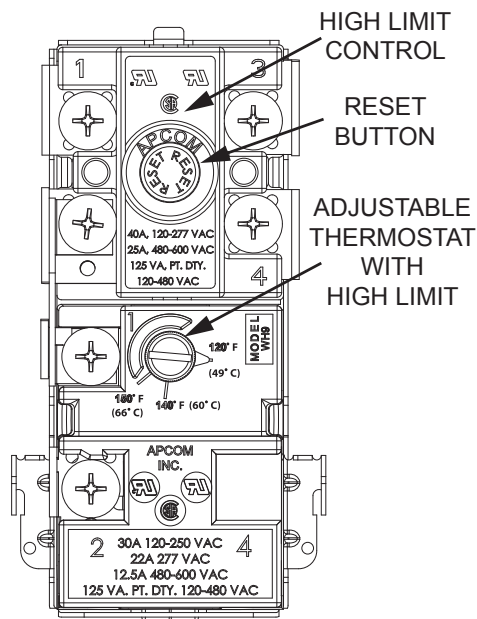

Figure 7.
**HOTTER WATER CAN SCALD:** Solar water heaters are intended to produce hot water. Water heated to a temperature which will satisfy clothes washing, dish washing, and other sanitizing needs can cause scalds resulting in serious personal injury and/or death. Some people are more likely to be permanently injured by hot water than others. These include the elderly, children, the infirmed, or physically handicapped. If anyone using hot water in your home fits into one of these groups or if there is a local code or state law requiring a certain temperature water at the hot water tap, then you must take special precautions. Please see Figure 7 and Table 2 for information regarding thermostat settings. In addition to using the lowest possible temperature setting that satisfies your hot water needs, some type of mixing device, such as a mixing valve should be used at the hot water taps used by these people or at the solar water heater. Mixing valves are available at plumbing supply or hardware stores. Follow manufacturers instructions for installation of the valves. Before changing the factory setting of the thermostat, read the Temperature Adjustment section. **KEEPING THE THERMOSTAT SETTING AT 120°F WILL REDUCE THE RISK OF SCALDS.** Never allow small children to use a hot water tap, or to draw their own bath water. Never leave a child or handicapped person unattended in a bathtub or shower.